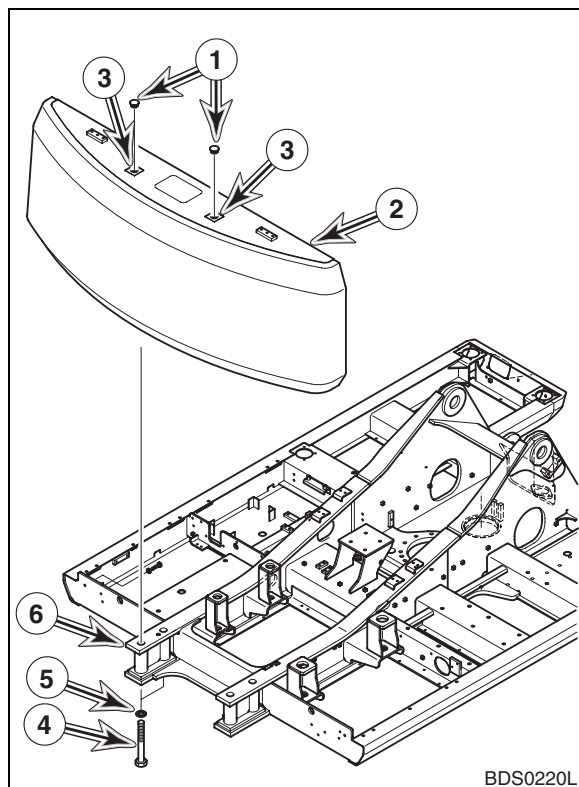

Figure 5
2. Using suitable lifting device capable of handling load, raise counterweight (2, Figure 5) into position just above support frame (6) leaving counterweight suspended. Verify that counterweight is level and even.
NOTE: Leave counterweight (2, Figure 5) suspended 3 mm (0.125") above support frame (6) until all four mounting bolts (4) are started in counterweight mounting holes.
3. Slide washers/spacers (5, Figure 5) onto bolts (4). Apply Loctite #242 to mounting bolt threads.
4. Install four bolts (4, Figure 5) with washers/spacers (5) into counterweight until washers/spacers contact support frame. Fully lower counterweight onto support frame and finish tightening bolts.
NOTE: Tighten bolts (4, Figure 5) to values shown in following table.
5. Remove lifting device and lifting eyes from counterweight lifting holes (3, Figure 5).
6. Install two caps (1, Figure 5) in lifting holes (3).